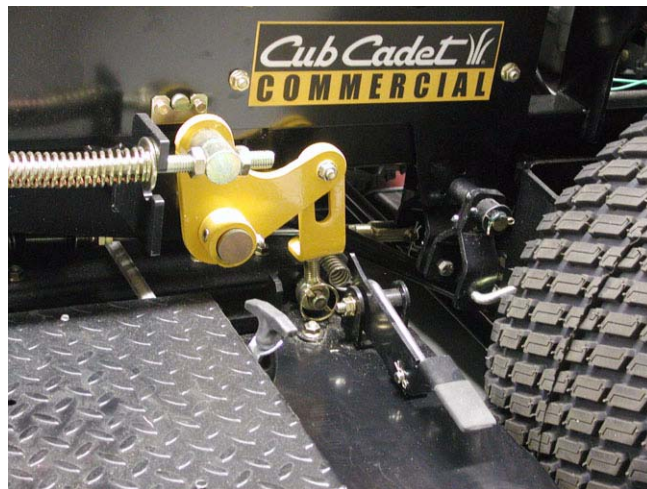

Figure 8.1
- 8.1. Heavier brackets to suspend the deck. See Figure 8.1.